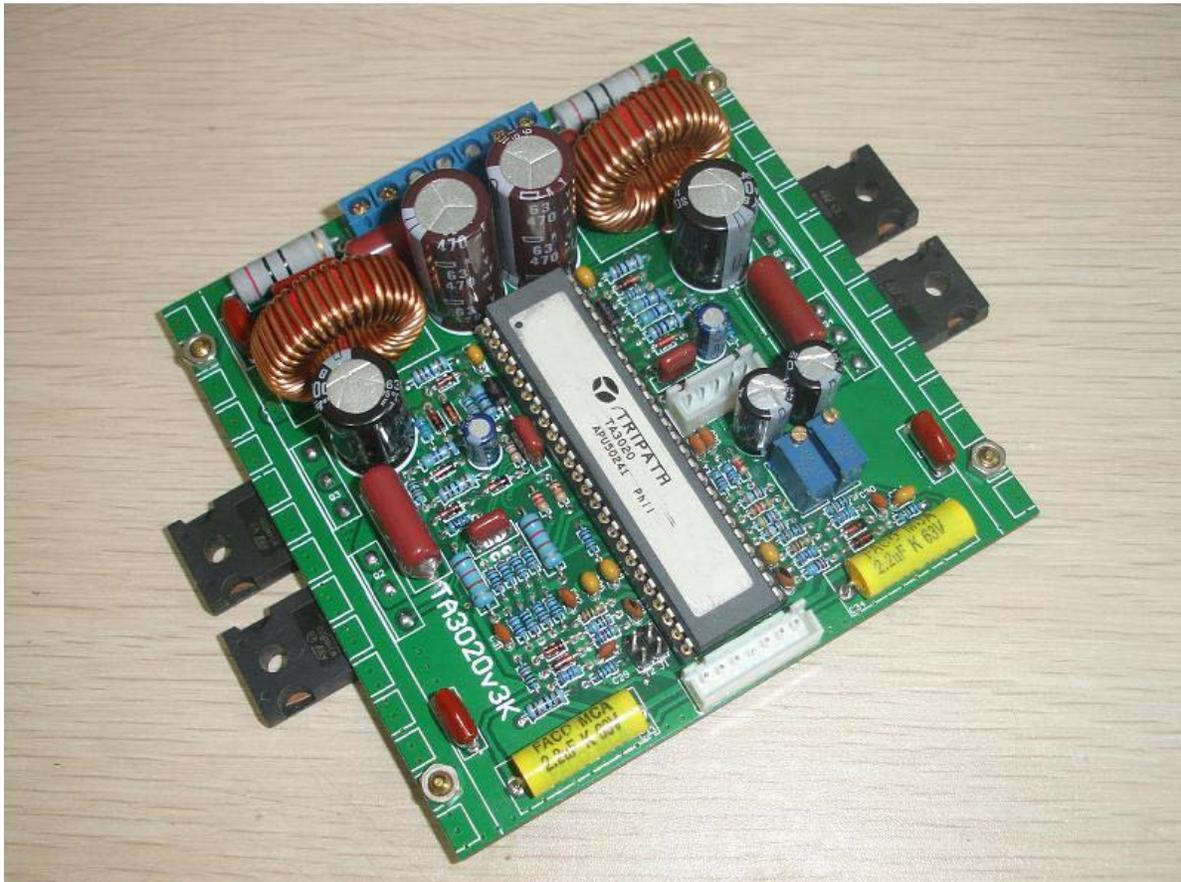

Figure 1: TA3020 Audio Amplifier Module v3b
- Complete assembled and tested version, as can be seen in Figure 1 or Figure7.